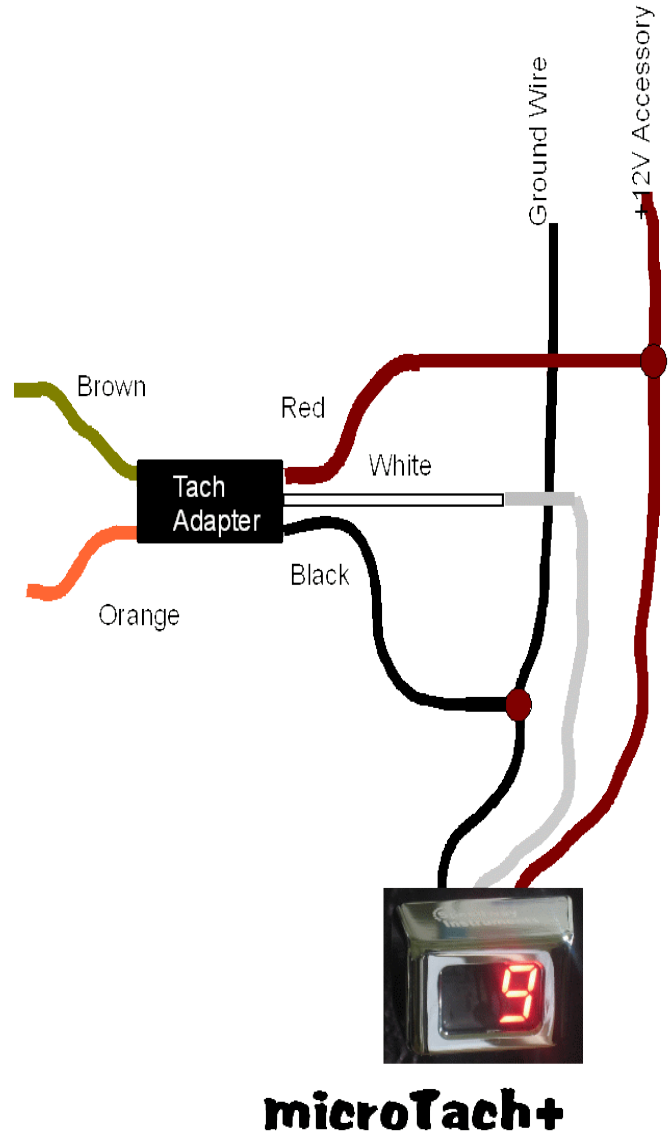

Figure 4: Tachometer to tach adapter diagram
11. Use splice connectors to attach Red wire from microTach+™ tachometer and Red tach adapter wire to +12V instrumentation or accessory power. Attach Black wires from microTach+™ tachometer and tach adapter to Ground wire. Attach White wire from microTach+™ tachometer to the white signal from tach adapter. See Figure 4. (brown wire is not used on Dual-Fire systems)